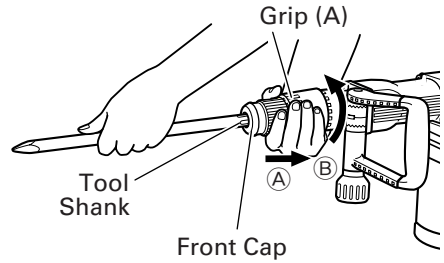
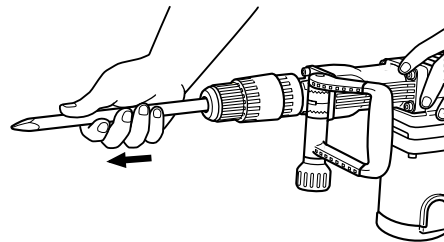

Fig. 2
Fig. 3
- (1) Clean the shank portion of the tool.
- (2) As shown in Fig. 2, pull grip (A) in the direction of Ⓐ, and insert the tool into a hole of the front cap while turning in the direction of Ⓑ.
- (3) Adjust the groove position while turning the tool, and furthermore insert it until it hits the end of the hole.
- (4) Return grip (A) to its original position, pull the tool to make sure it is locked completely. (Fig. 3)
As shown in Fig. 2, pull grip (A), and pull out the tool while furthermore turned in the direction of Ⓑ.